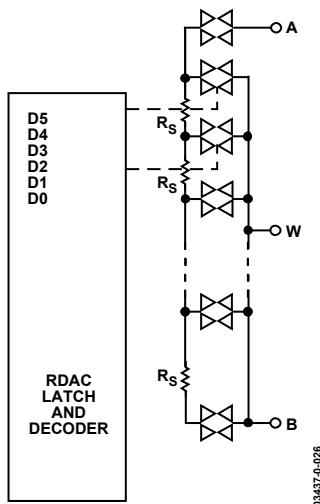

Figure 26. AD5171 Equivalent RDAC Circuit
The nominal resistance ( $R_{AB}$ ) of the RDAC has 64 contact points accessed by the wiper terminal, plus the B terminal contact if  $R_{WB}$  is considered. The 6-bit data in the RDAC latch is decoded to select one of the 64 settings. Assuming that a 10 k $\Omega$  part is used, the wiper's first connection starts at the B terminal for data 0x00. Such connection yields a minimum of 60  $\Omega$  resistance between terminals W and B because of the 60  $\Omega$  wiper contact resistance. The second connection is the first tap point, which corresponds to 219  $\Omega$  ( $R_{WB} = (1) \times R_{AB}/63 + R_W$ ) for data 0x01, and so on. Each LSB data value increase moves the wiper up the resistor ladder until the last tap point is reached at 10060  $\Omega$  ( $((63) \times R_{AB}/63 + R_W)$ ). Figure 26 shows a simplified diagram of the equivalent RDAC circuit. The general equation determining  $R_{WB}$  is